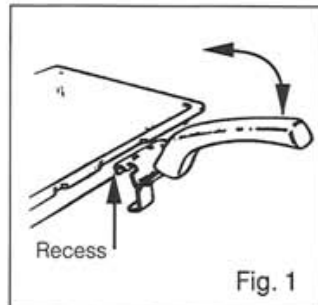

Fig. 1
- Fixing the grill pan handle. Ensure that the handle is secure before use (see Figs. 1, 2 and 3 below). The food to be cooked should be placed on the grill pan/grill pan grid. Place the grill pan on the shelf and push back until the pan is correctly positioned beneath the grill element.
The handle fits onto the grill pan edge with the small recess, Fig. 1.